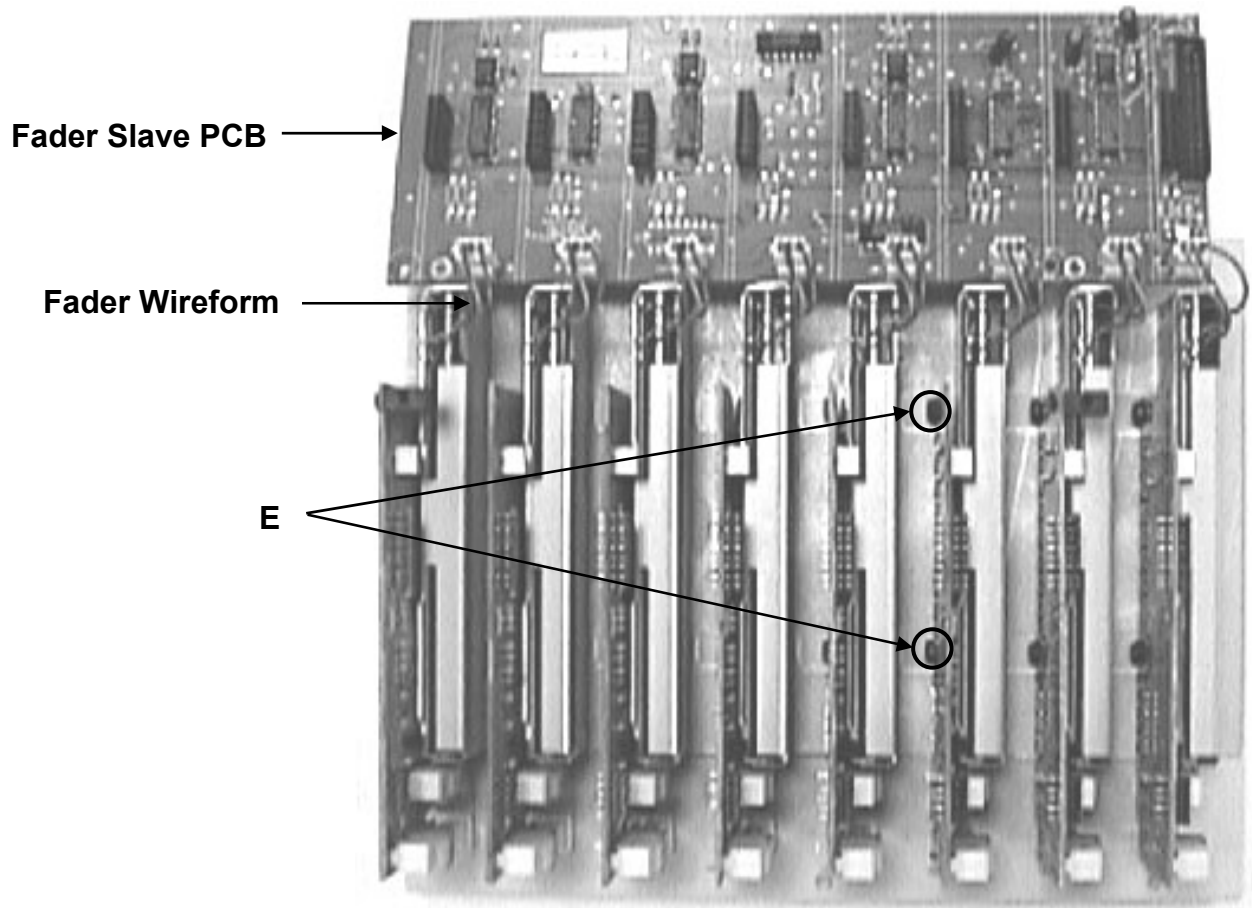

fig.3
- 5) Once removed, turn the **Fader Slave PCB** over (see fig.3)
To remove a **Mono Fader PCB**, use a 5.5mm spanner to remove the relevant M3x4 Taptite Hex Headed Screws (**E**) that attach the **Mono Fader PCBs** to the **Input Fader Bracket** (see fig.3).